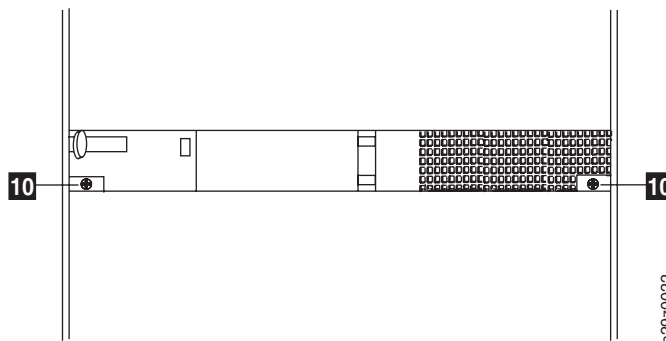

Figure 8-4. Removing screws at the rear of the library
10. Remove the two round-head screws **10** on each rear bracket securing the rear of the library to the rack (Figure 8-4).